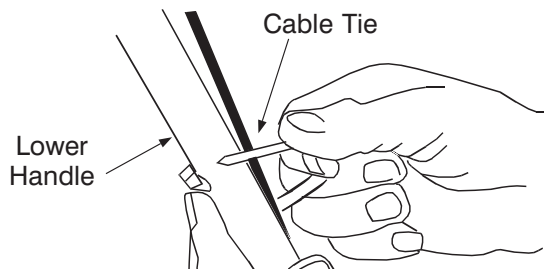

Figure 5
- Insert posts on cable ties into holes provided on the handle, holes may be in different locations depending on the model. See Figure 5.